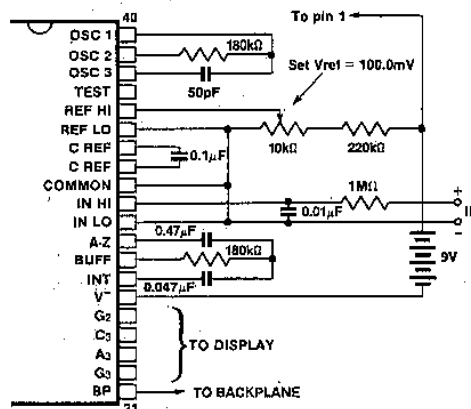

Figure 9. 7136 Using the Internal Reference. Values shown are for 200.0mV full-scale, 3 readings/sec, floating supply voltage (9V battery).
*Values depend on clock frequency. See Figures 9, 10, 11.